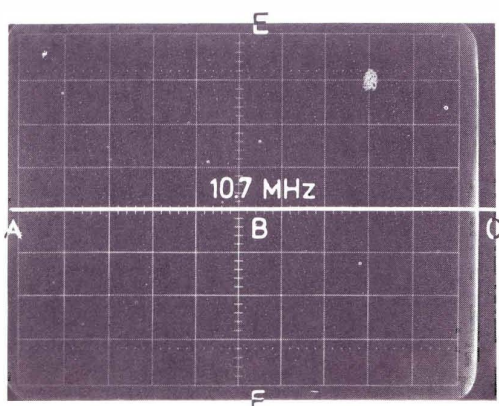

Fig. 17. Frequency scale
- Set the controls of the oscilloscope for horizontal and vertical shift and horizontal amplification in such a way that the line on the screen is symmetrical with respect to the vertical central axis of the graticule. (AB = BC, Fig. 17). Point B in the screen will now represent a frequency of 10.7 MHz.